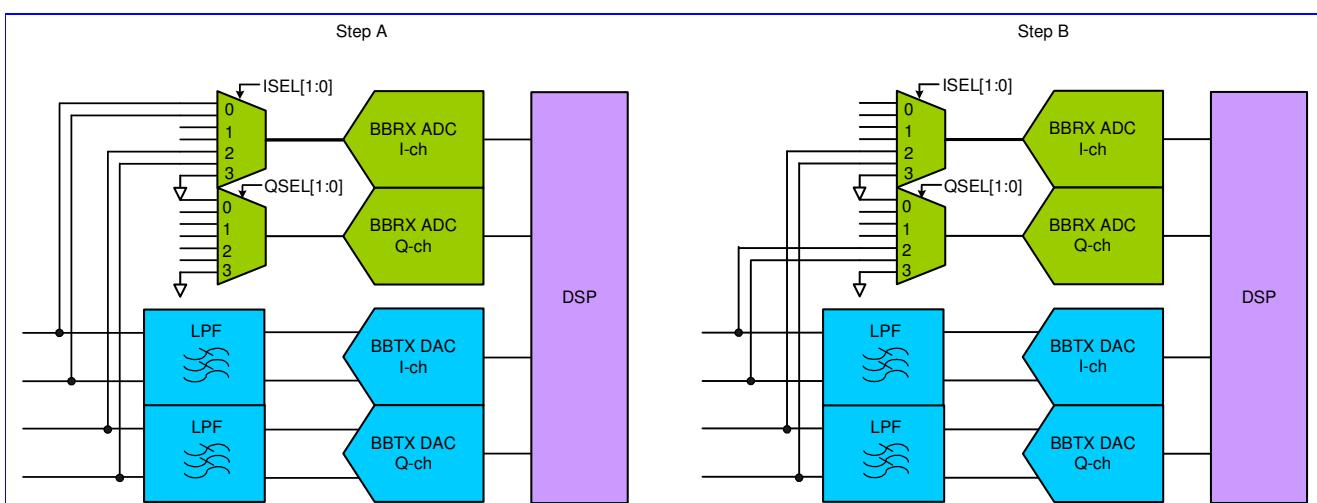

Figure 112 Downlink RX and Up-link TX Gain Mismatch Measurement (A) I/Q TX connect to I/Q RX (B) I/Q TX connect to Q/I RX
- The uplink I-channel output are connected to the downlink I-channel input, and the uplink Q-channel output are connected to the downlink Q-channel input. This can be achieved by setting **ISEL [1:0] ='00'** and **QSEL [1:0] ='00'** (shown in **Figure 112 (A)**)..
- The uplink I-channel output are then connected to the downlink Q-channel input, and the uplink Q-channel output are connected to the downlink I-channel input. This can be achieved by setting **ISEL [1:0] ='10'** and **QSEL [1:0] ='10'** (shown in **Figure 112 (B)**).